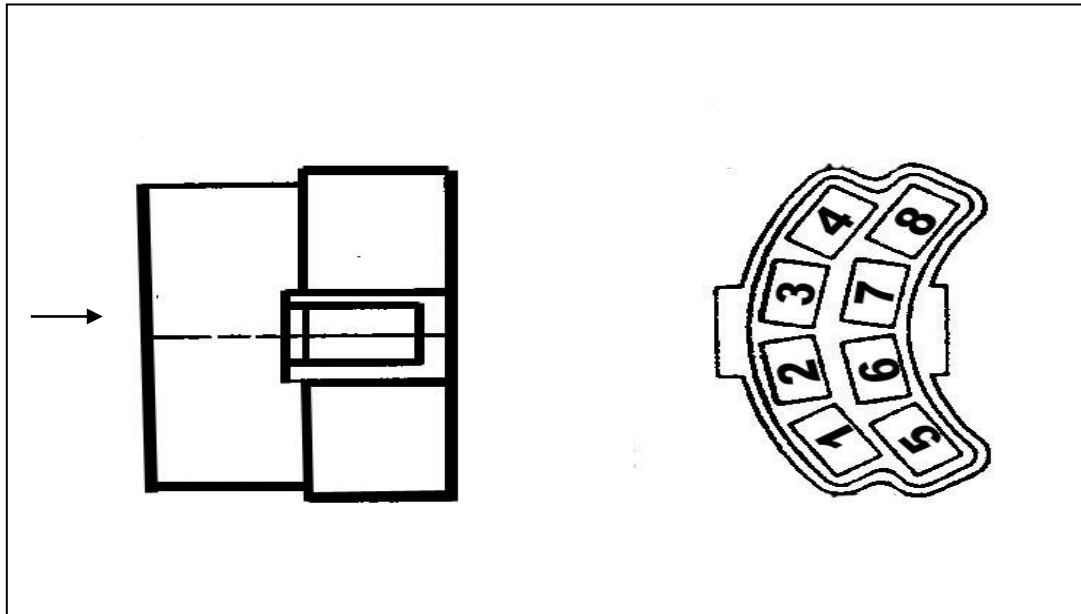

Figure 7.7 Original Connector. Viewed from wire insertion side. (See arrow)
- 7.7.1** In **Figure 7.7** the original connector is shown. YOU MUST KEEP YOURS, if you plan on using the original type switch. We have included the the late model connectors for updated columns.
- 7.7.2** See **Table 7.1** and **Figure 7.7** for original style hook-up.